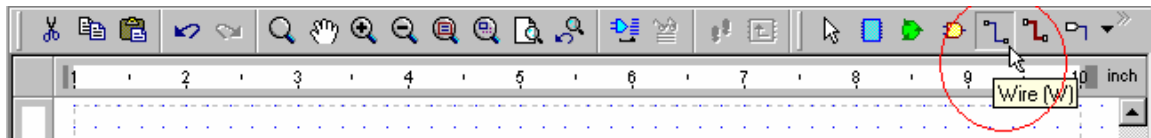

Figure 17
- Click on the Wire icon in the toolbar (see Figure 17).